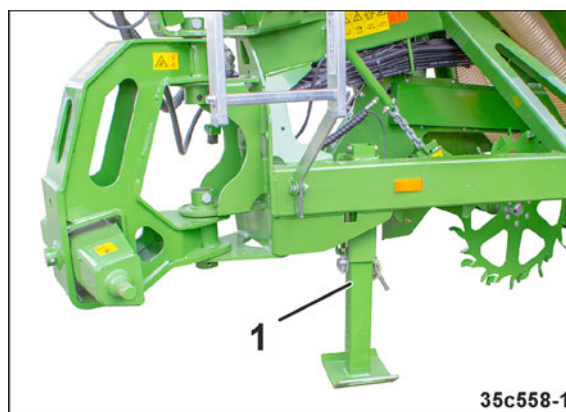

Fig. 283
Before working on the implement, place the implement connected to the tractor on the jack (Fig. 283/1) to prevent unintentional lowering of the tractor's lower link.
1. To clean, always place the implement connected to the tractor on the jack (Fig. 283/1).